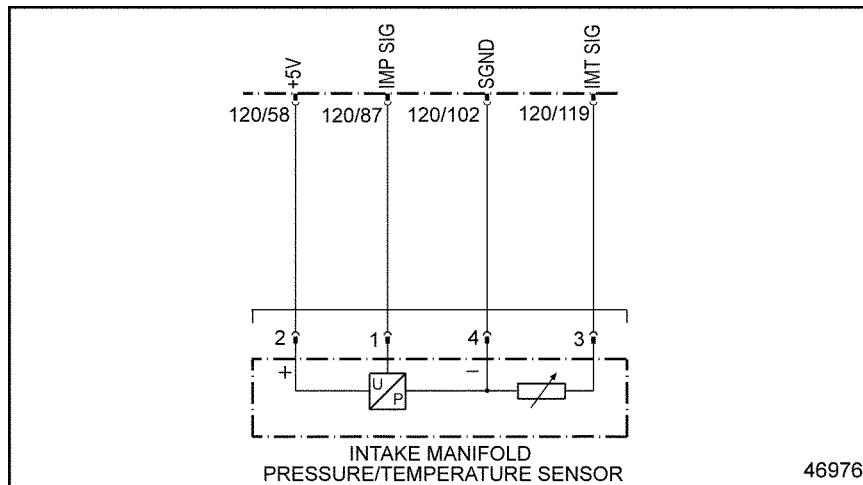

Figure 44-2 Intake Manifold Pressure/Temp Sensor
3. Measure the resistance between pins 1 and 2 of the Intake Manifold Pressure/Temp Sensor. See Figure 44-2.
4. Measure the resistance between pins 2 and 4 of the Intake Manifold Pressure/Temp Sensor. See Figure 44-2.